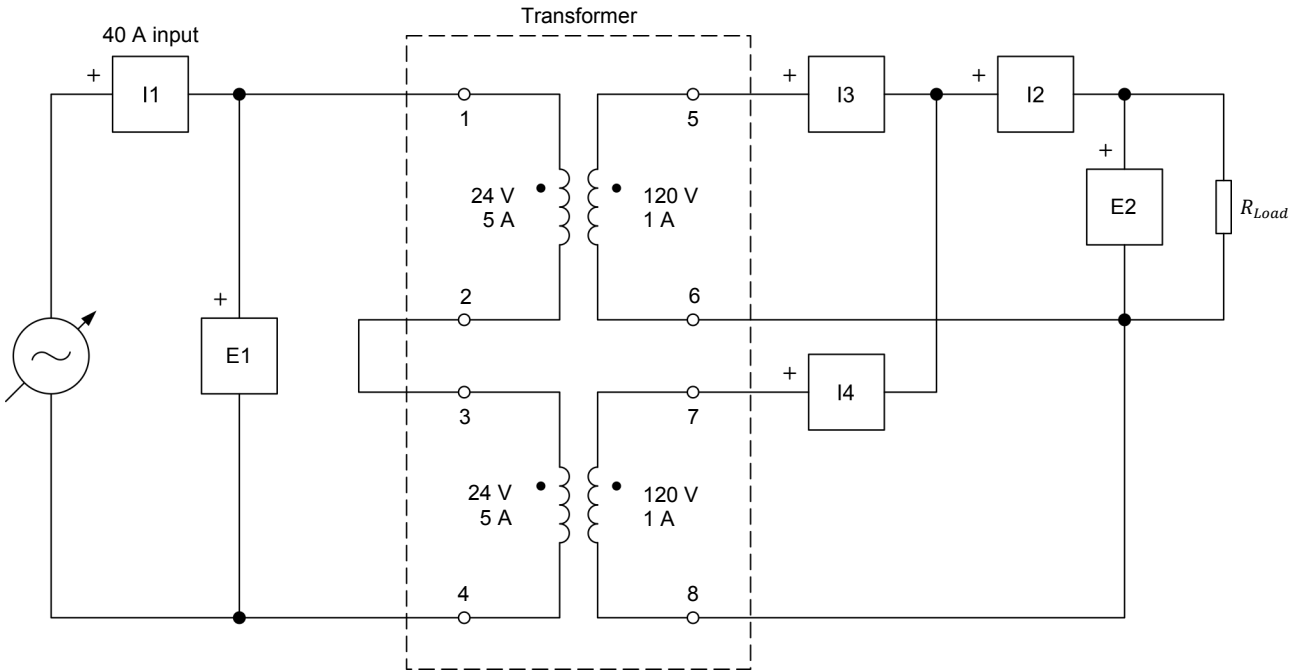

Figure 20. Step-up transformer with windings connected in parallel.
35. Modify the circuit connections to obtain the circuit shown in Figure 20. Do not change the resistance value of the resistive load. In this circuit, the two secondary windings (windings 5-6 and 7-8) are connected in parallel with the resistive load.